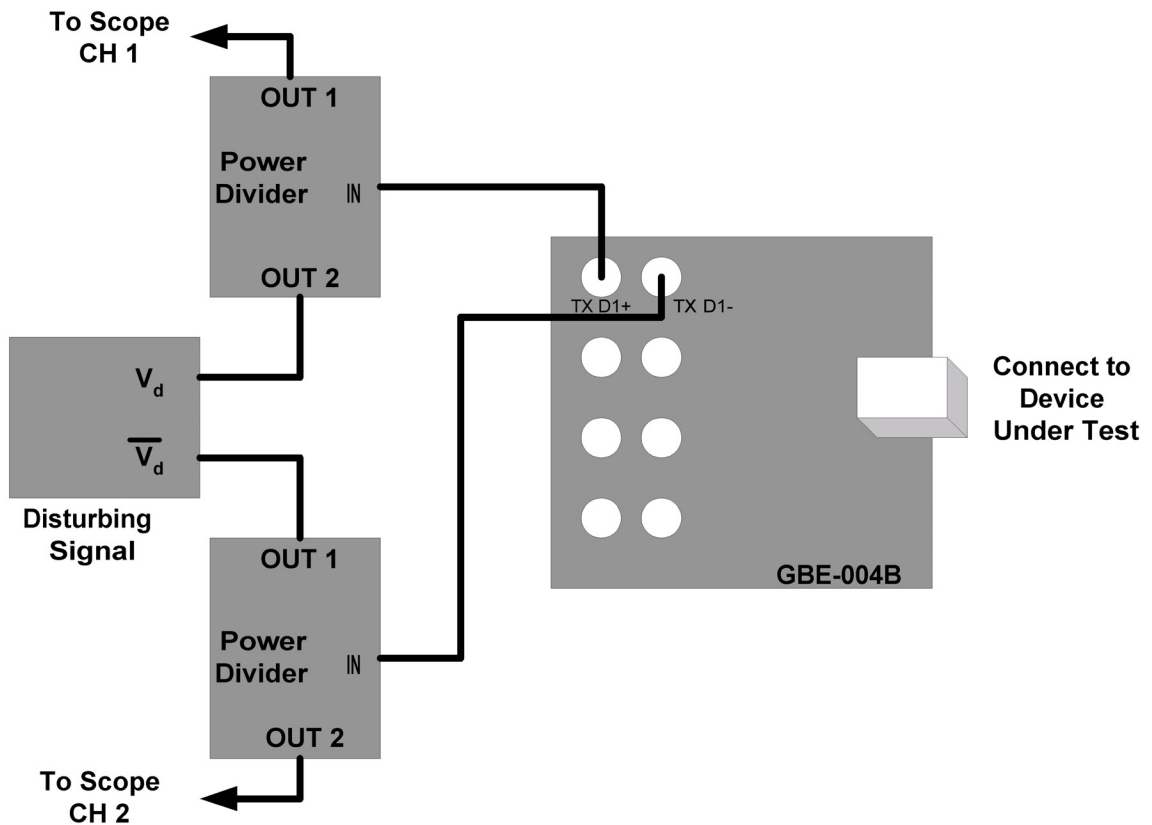

Figure 41: Connections for Disturbing Signal for Modes 1 and 4
7. Connect the fixture to the power splitters, oscilloscope and device under test, as shown in Figure 41.